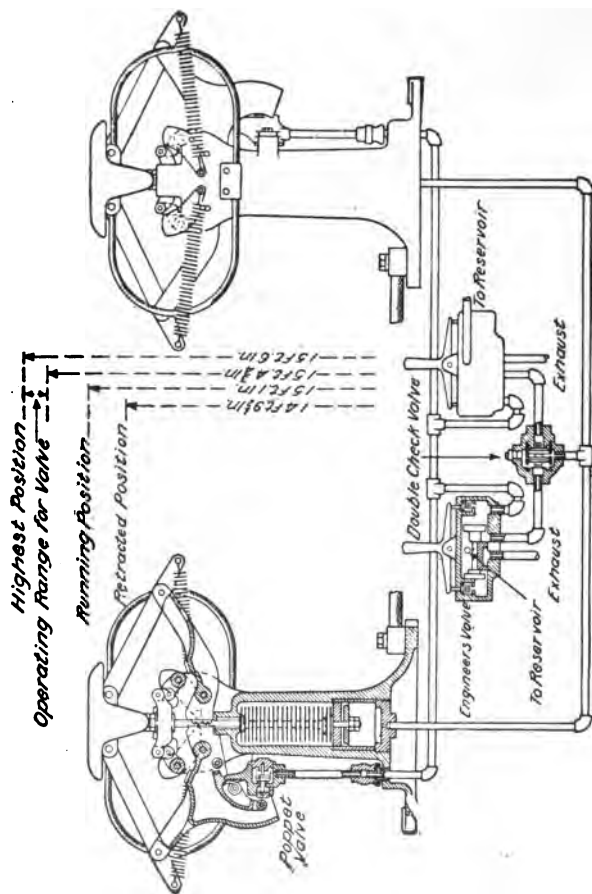

Fig. 511. Overhead Contact Device.
57. **OVERHEAD CONTACT DEVICE** (Fig. 511) is a pneumatically operated shoe. There is a valve near each master controller in the cab, by means of which the